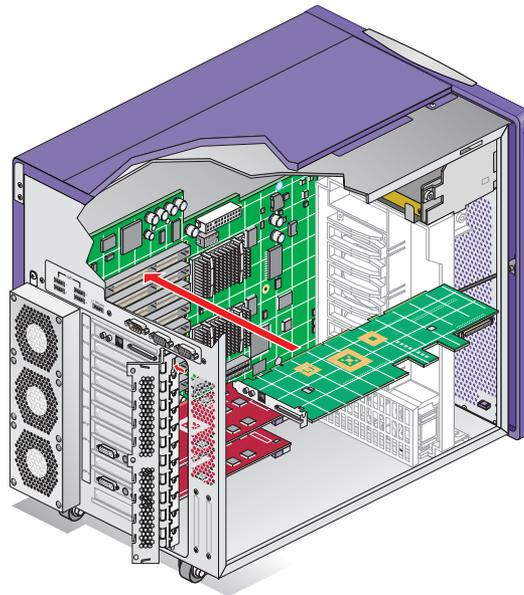

Figure 3-20 Installing the Base I/O Board
4. Position the I/O board in the enclosure’s PCI slot. Press in to seat the board in the PCI connector on the interface board (see Figure 3-20).